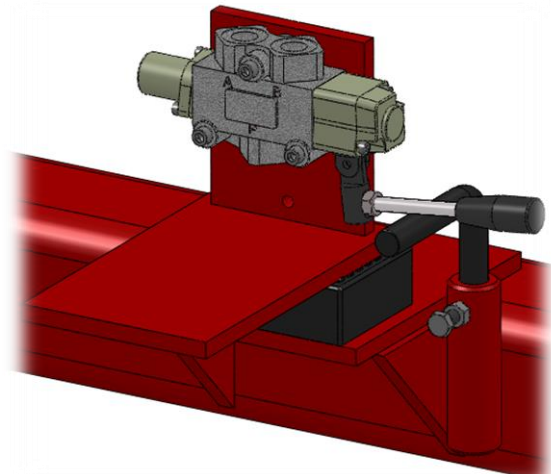

Figure 3.2.3-Hydraulic limit switch
The K75A/K75B/K80/K85 forward tipping box rotator is protected against unintended opening of the upper clamp during tipping by means of a hydraulic limit switch. See figure 3.2.3. If the upper clamp fails to open in its horizontal position, check whether the limit switch on the tipping frame is operated. If not, the limit switch stop must be raised to the point where the switch does operate.
2. Loosen the adjusting tube bolt and locknut. See figure 3.2.3.